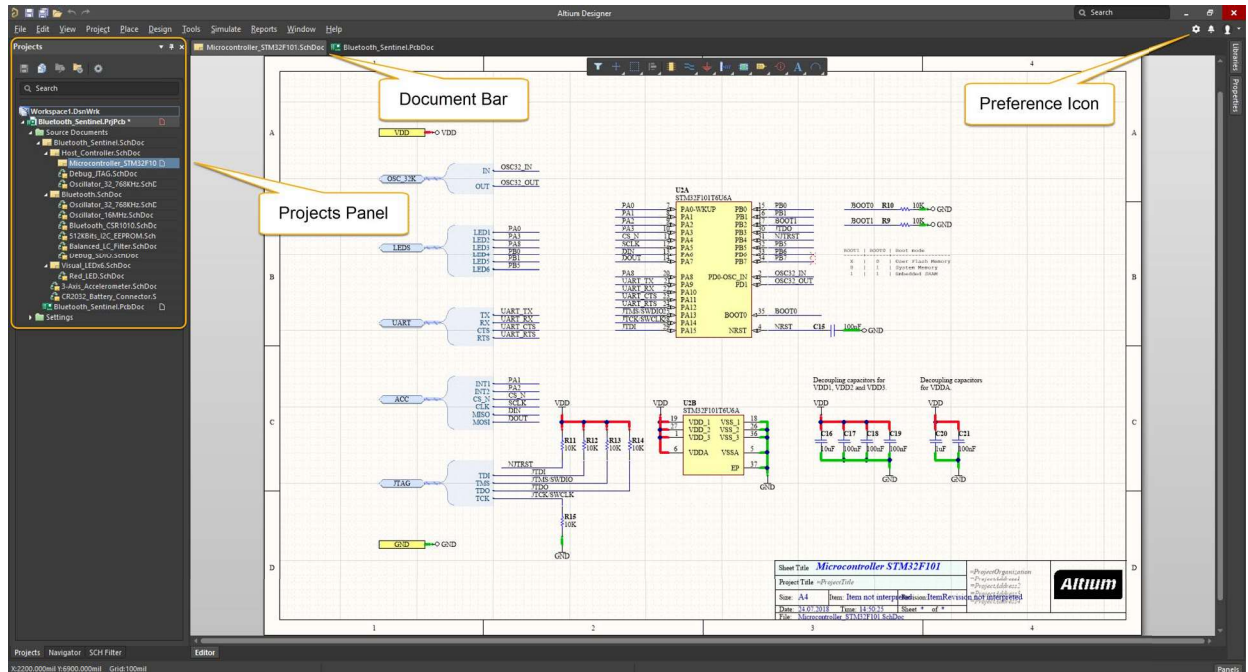

Figure 2. Altium Designer Environment
3. Locate the *Projects* panel on the left of the window as shown in Figure 2 below and double-click on the schematic file *Microcontroller_STM32F101.SchDoc*. This will open the schematic document within the active workspace and provide the working view of the schematic.